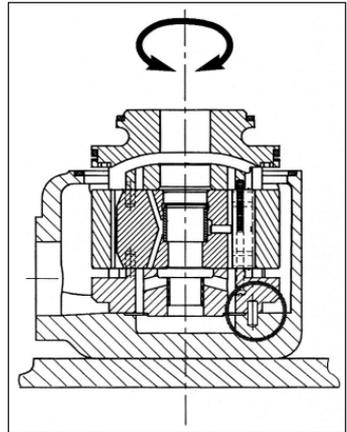

Fig. 8
2. Check if the dowel pin is in its position in the housing by trying to rotate the cartridge (Fig. 8).